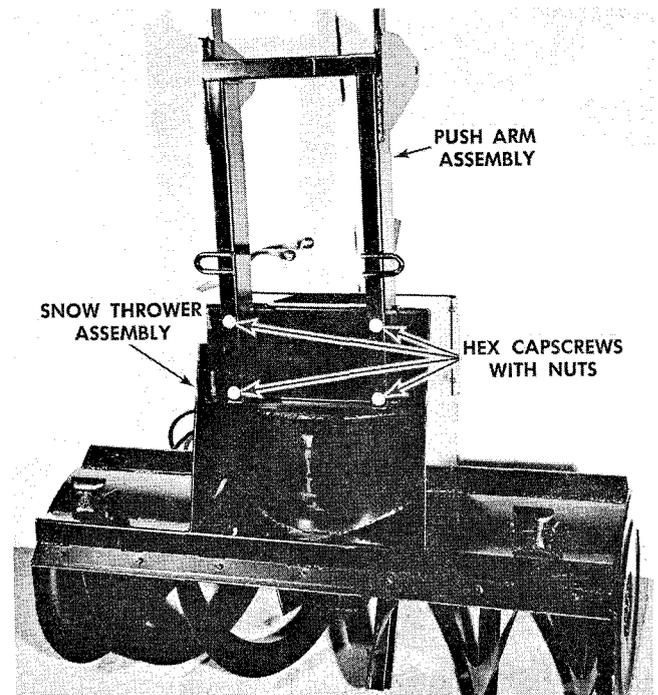

FIGURE 3
1. Attach the push arm assembly to the rear of the Snow Thrower with four hex head cap screws 1/2-13 x 3-3/4 and Flange Whiz lock nuts 1/2-13. See figure 3.